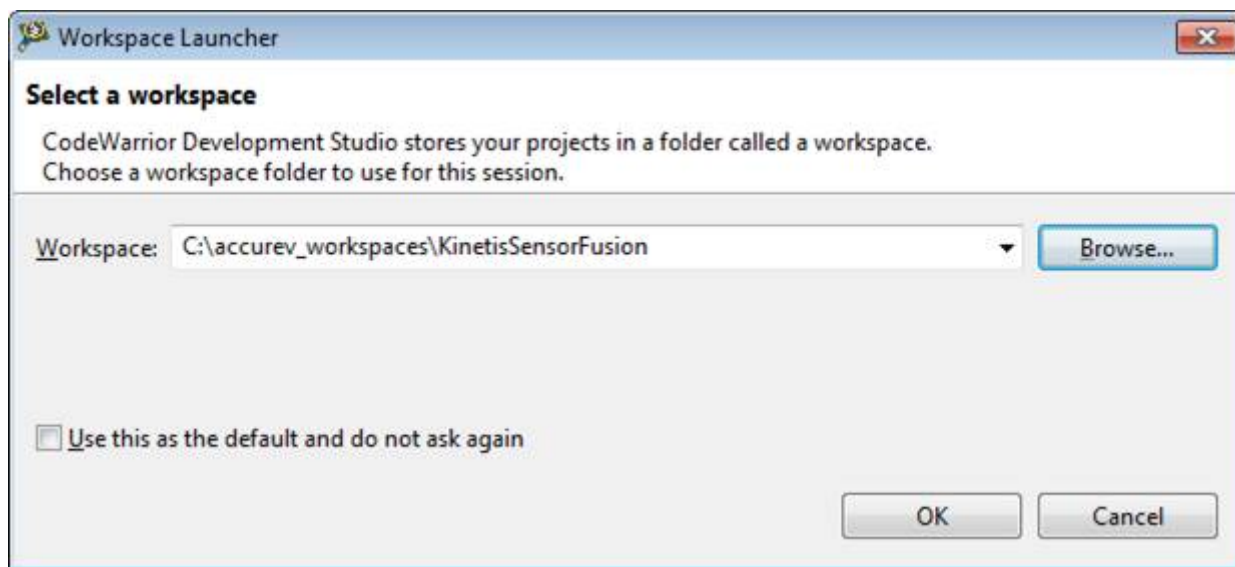

Figure 9. Workspace launcher select window
3. Open **CodeWarrior** and in the Workspace Launcher dialog, see Figure 9, choose the workspace where the product development project is located.